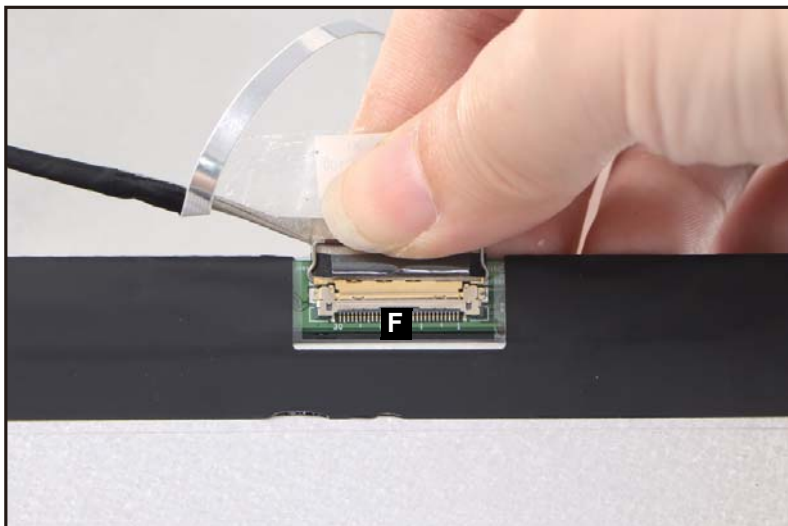

Figure 1-49. LCD Panel Removal
5. Disconnect the LCD cable from the LCD panel connector (F) (Figure 1-49). Then remove the LCD panel.